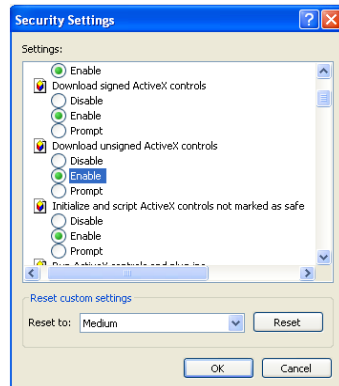

Fig 8-2
③ Enable all the sub options under “ActiveX controls and plug-ins”. Refer to Fig 8-2. Then click Ok to finish setup.